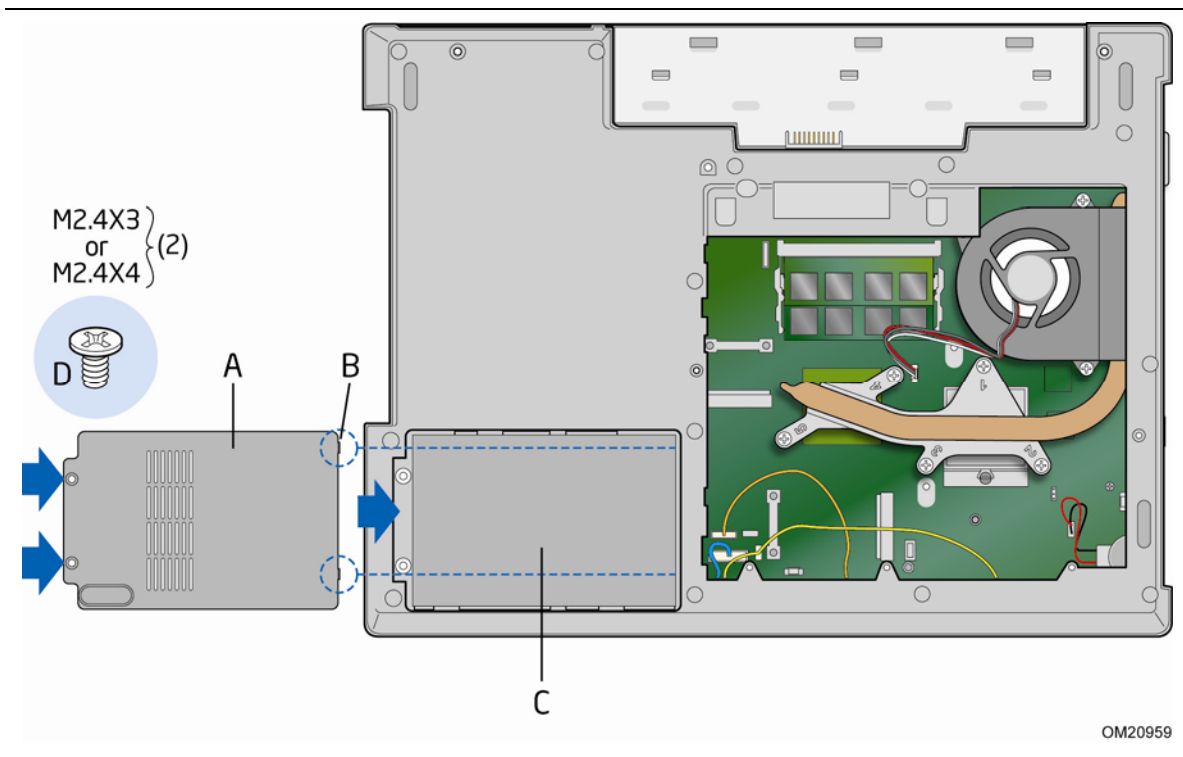

Figure 31. Installing the Hard Disk Drive Cover
To install the hard disk drive bay cover, see Figure 31 and follow these steps:
1. Align the two tabs (Figure 31, B) on the hard disk drive bay cover (Figure 31, A) with the matching slots in the D-tray and lower the cover into place over the hard disk drive bay (Figure 31, C).
2. Secure the cover to the D-tray with two screws (Figure 31, D) as shown in the figure.